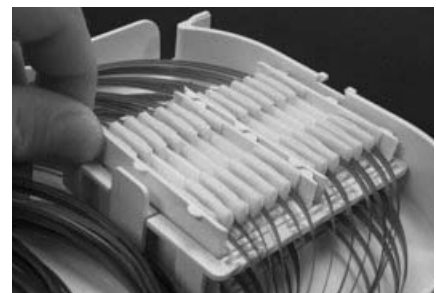

Figure 6
- For modules 2 and 3, store splices, insert modules into stack module, and rotate entire stack module assembly as described in step 5. Then place the stack module on top of the original splice module as shown in Figure 6.